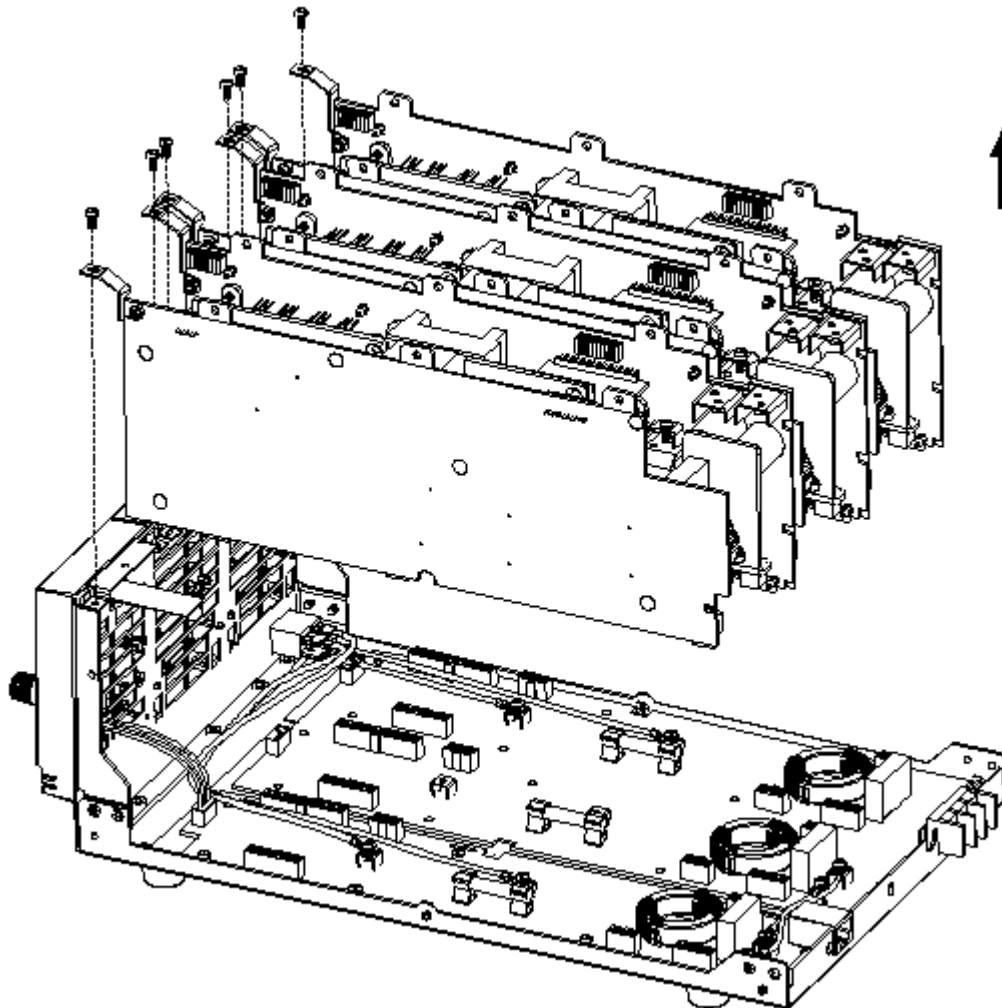

Figure 4-4
**Step1** Remove ① ~ ⑦ cables as shown in the figure 4-4